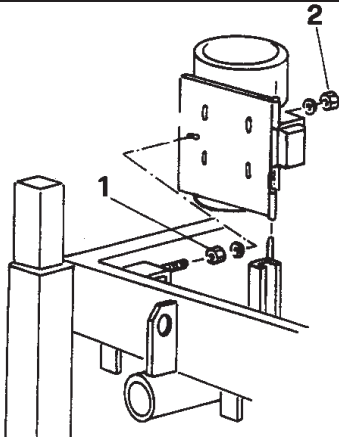

Fig.15
11.4.2 MEZCLADORA EQUIPADA CON MOTOR ENDOTERMICO (Ref. Fig. 15)